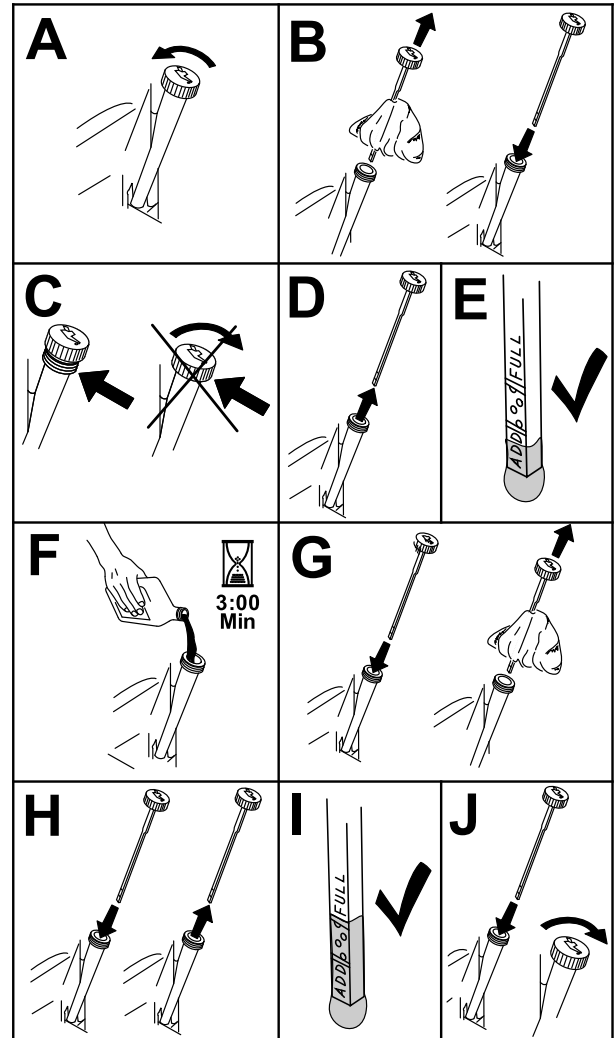

Figure 38
3. To keep dirt, grass clippings, etc., out of the engine, clean the area around the oil-fill cap and dipstick before removing it (Figure 38).